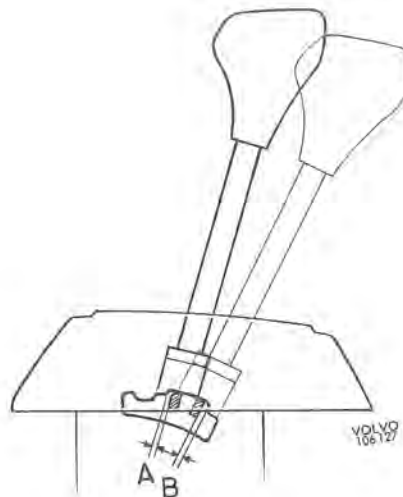

Fig. 4-72. Adjusting selector controls
2. Adjust the length of the shift rod so that there is a small gap (min. 1 mm = 0.04", see B, Fig. 4-72) between the selector lever inhibitor and selector gate when the rod is connected to the lever on the transmission.